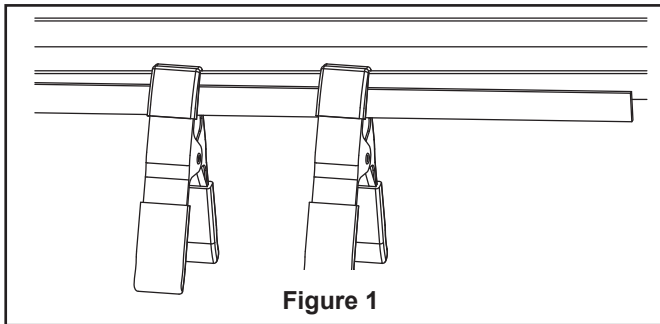

Figure 1
1. Wrap the belting around the two pulleys that will be connected and overlap the belting as shown. Use the spring clamps provided to hold the belting in place temporarily. With the clamps remaining in the same place, grasp both ends of the belting and pull tight. The clamps should hold the belting together after releasing the belt. (Figure 1)